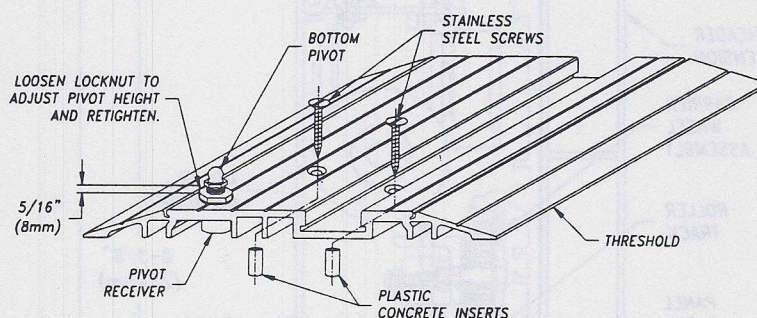

FIGURE 9: Bottom Panel Pivot Attachment
4. Thread the panel pivot post (found in blister pack) into the pivot receiver in the threshold and adjust to correct height (Figure 9).
3. Adjust lock nut on bottom pivot to give the required 1/8" (3mm) clearance at the top of the panel (Figure 9).